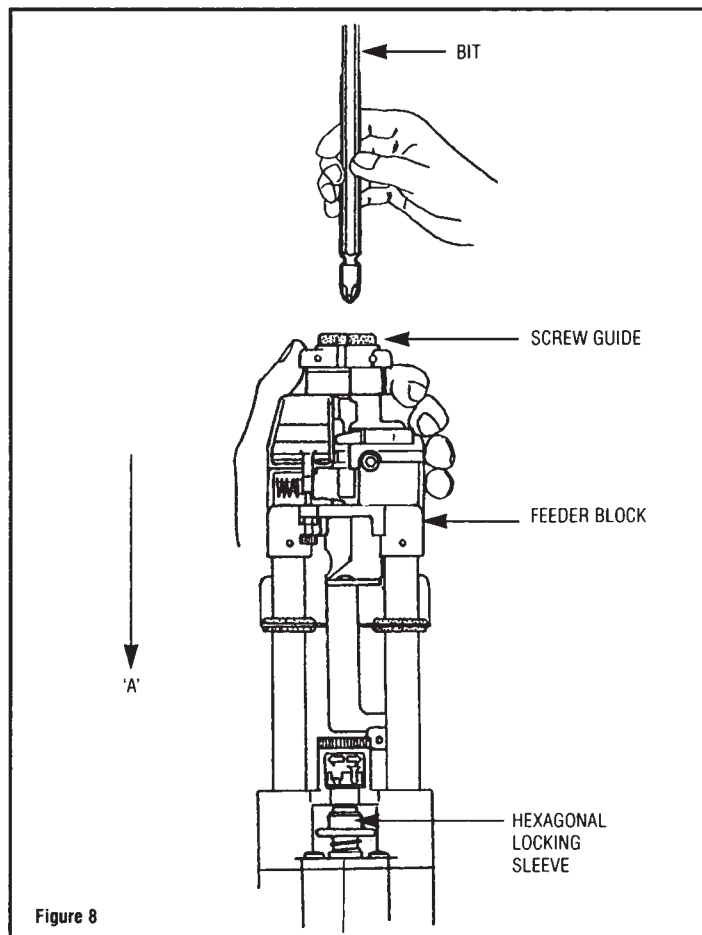

Figure 8
**Inserting the bit** - Depress the feeder block about 1" in the 'A' direction as shown in figure 8. Pass the bit through the feeder block center hole, through the depth adjuster dial and align with the hexagonal sleeve hole. Release feeder block. Depress the locking sleeve in the 'A' direction and slide the bit fully into the hole. Release the locking sleeve to hold the bit in place. Check that the bit is fully secured.